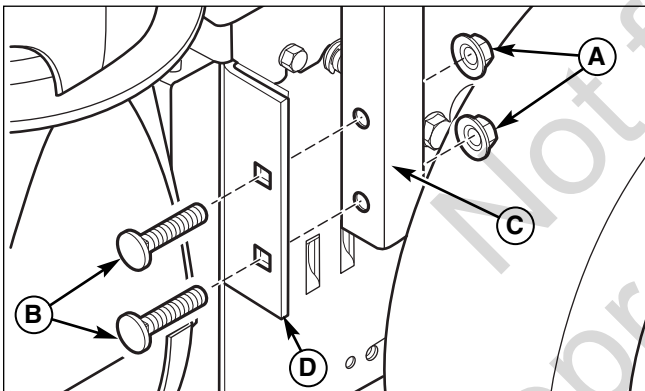

Figure 34. Offset Tube (Lower) Removal
10. Remove two 5/16-18 KEPS hex nuts (A, Figure 34), and two 5/16-18 x 1-1/2 carriage bolts (B) securing the offset tube (C) to the tube support bracket (D).
16. Attach chute and offset tube previously removed (Figure 34 and 35). Tighten all KEPS nuts to 11 lb-ft (15 Nm).